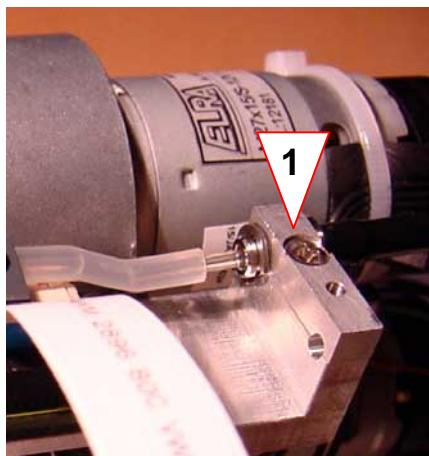

Fig. 4-10 Barex tube mounting screw
4. Open the mounting screw of the barex tube and remove the holder (see Fig. 4-10, 1).